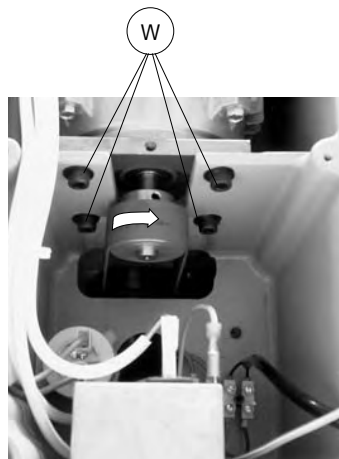

Fig. 18
- 3) loosen the 4 motor locking screws (W) (fig. 18) and remove the belt.